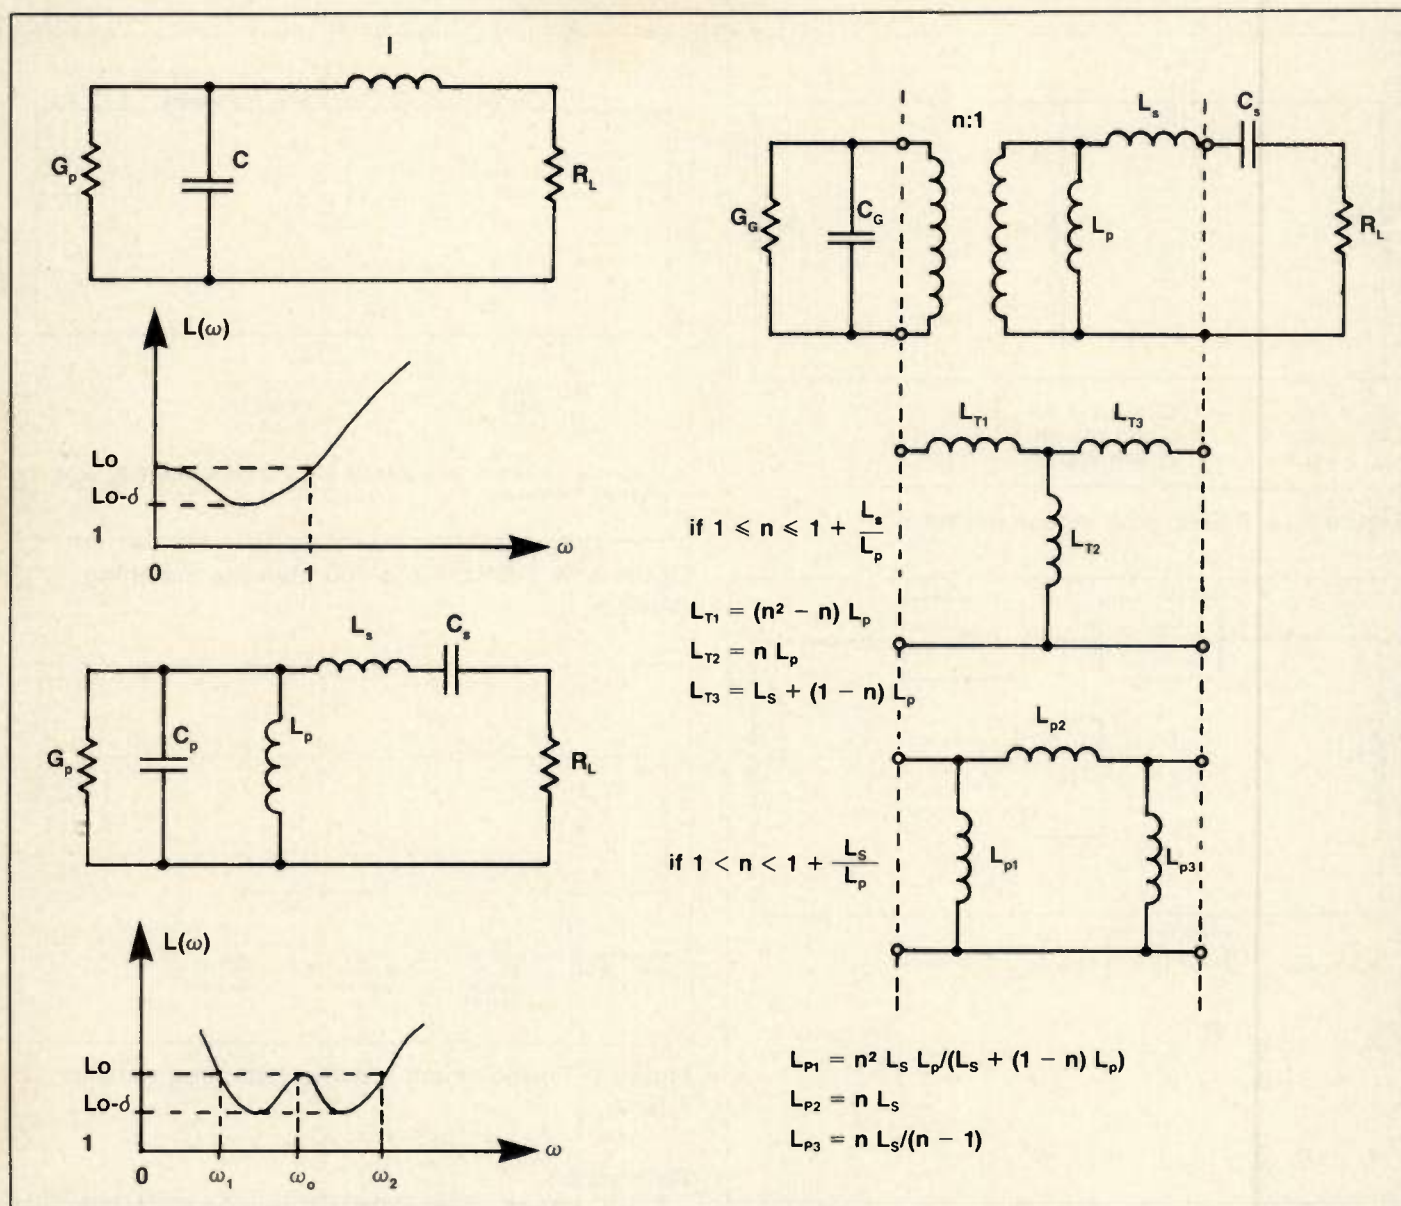

Figure 7. Low pass to band pass transformation.
Because the input impedance of a GaAs FET can generally be simulated by a series RC circuit, the designer should try to match a low value load resistance  $R_L$  to a higher value generator resistance  $R_G$ . As can be seen from Figure 7, the design methodology is described as follows: First, a prototype low pass filter is built from a given insertion loss  $L(\omega)$ . Then the corresponding bandpass filter is obtained from lowpass to bandpass transformation followed by the addition of a transformer at the input to match generator and load resistances. Finally, the transformer is replaced by a self inductance tee or pi network (5).